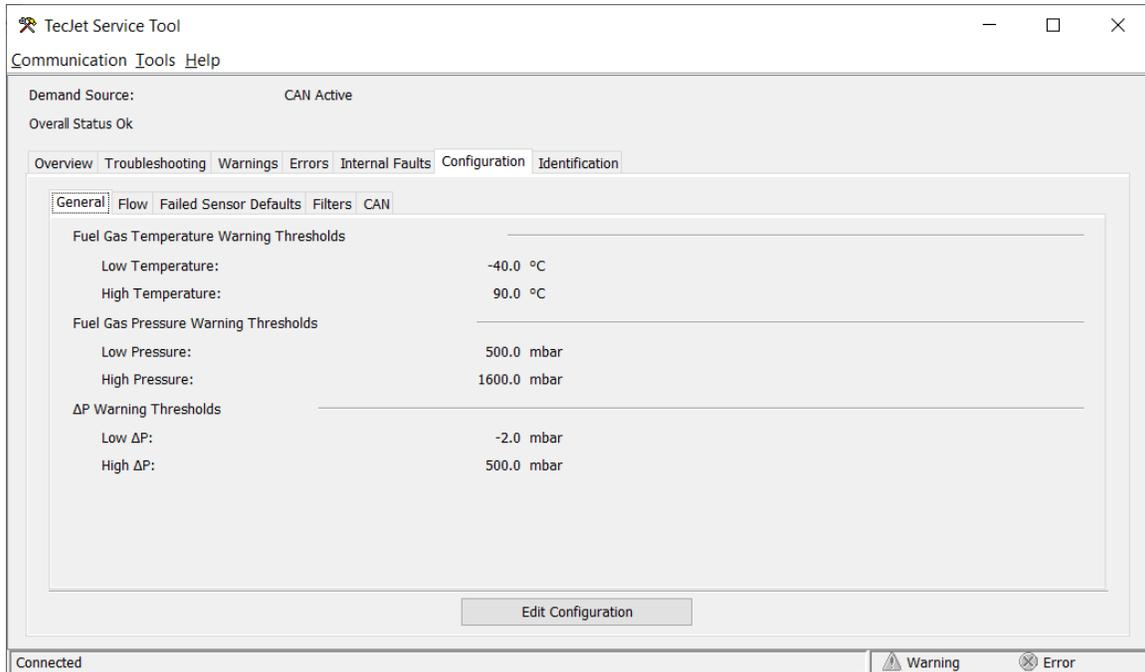

Figure 5-6. Configuration Screen
- Configuration (Figure 5-6)
To change the TecJet configuration, click the Edit Configuration button on the Configuration screen (see Figure 5-6).